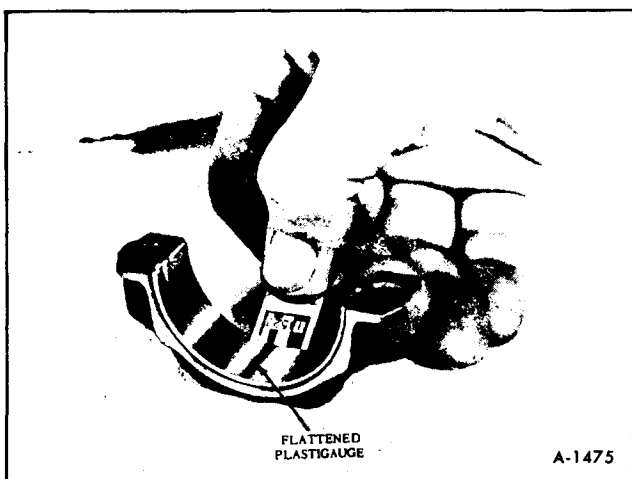

Figure 64—Checking Bearing Clearance
5. Remove bearing cap and determine bearing clearance by comparing the width of the flattened plastigauge at its widest point with graduation on the plastigauge container. The number within the graduation on the envelope indicates the clearance in thousandths of an inch. (figure 64) If this clearance is greater than .0035" **REPLACE BOTH BEARING SHELLS AS A SET.** Recheck clearance after replacing shells.